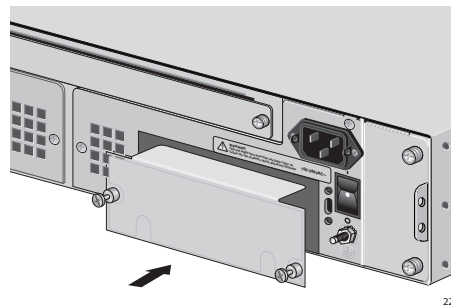

Figure 68. Inserting an AT-CV5PNL2 Blank Slot Cover
4. Slide the blank slot cover into the slot, as shown in Figure 68, until the slot cover is flush with the front of the chassis.